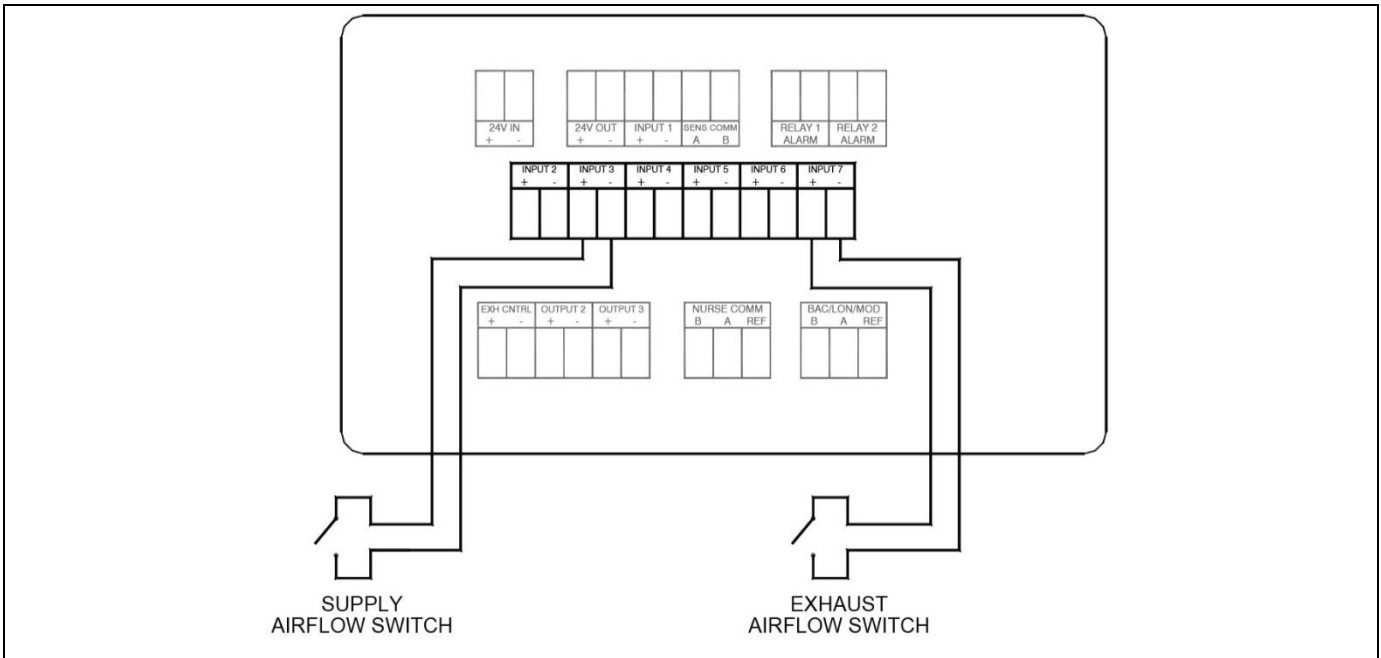
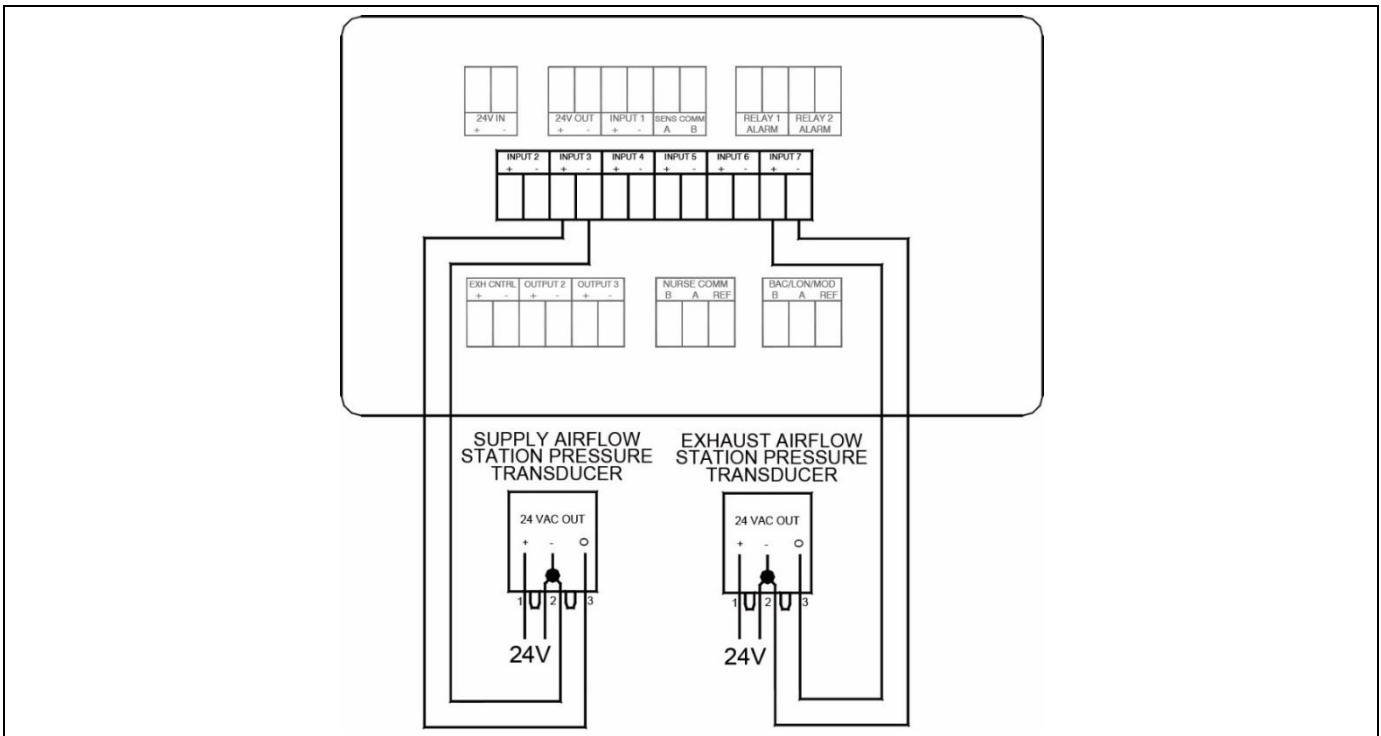

**Figure 9. Pressure Transducer Sensors Wiring to Model RPM10 / RPM20**
**Figure 10. Optional Supply / Exhaust Flow Switch Wiring to Model RPM10 / RPM20**
- Wire the pressure transducer per Figure 9 or Figure 10. Run sensor cable to the Clean Room Pressure Monitor 6" × 4" electrical rough-in box.